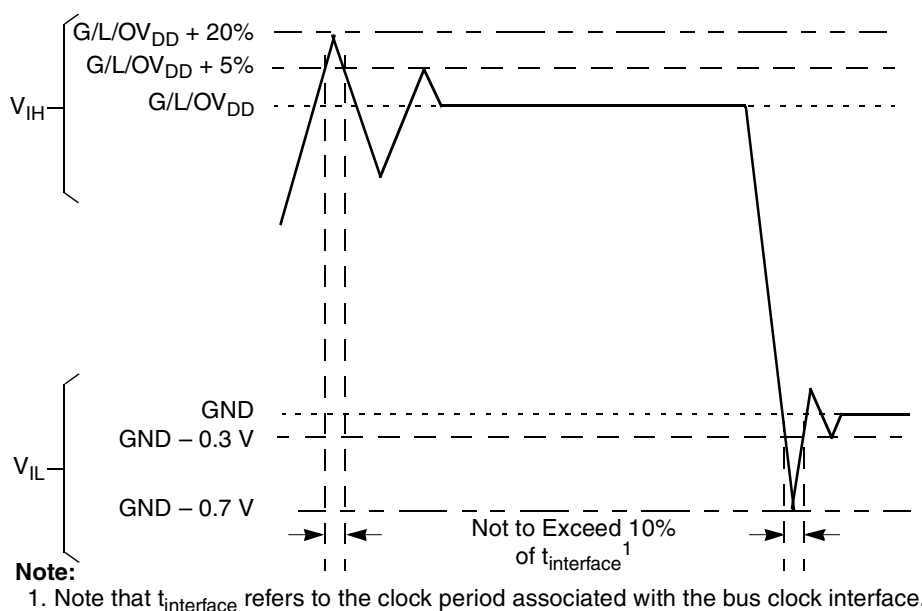

Figure 2. Overshoot/Undershoot Voltage for $G_{V_{DD}}/O_{V_{DD}}/L_{V_{DD}}$
- (M,L,O) V_{IN} and MV_{REF} may overshoot/undershoot to a voltage and for a maximum duration as shown in Figure 2.
Figure 2 shows the undershoot and overshoot voltages at the interfaces of the device.